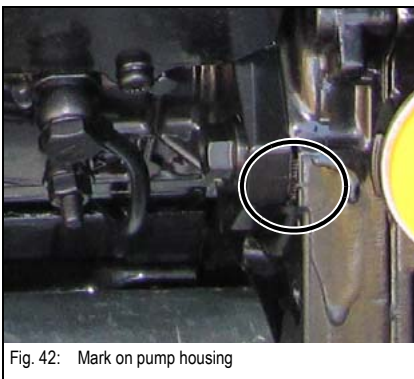

Fig. 42: Mark on pump housing
- ☞ Mark the original position of the injection pump on the pump and gear casing. – see Fig. 42